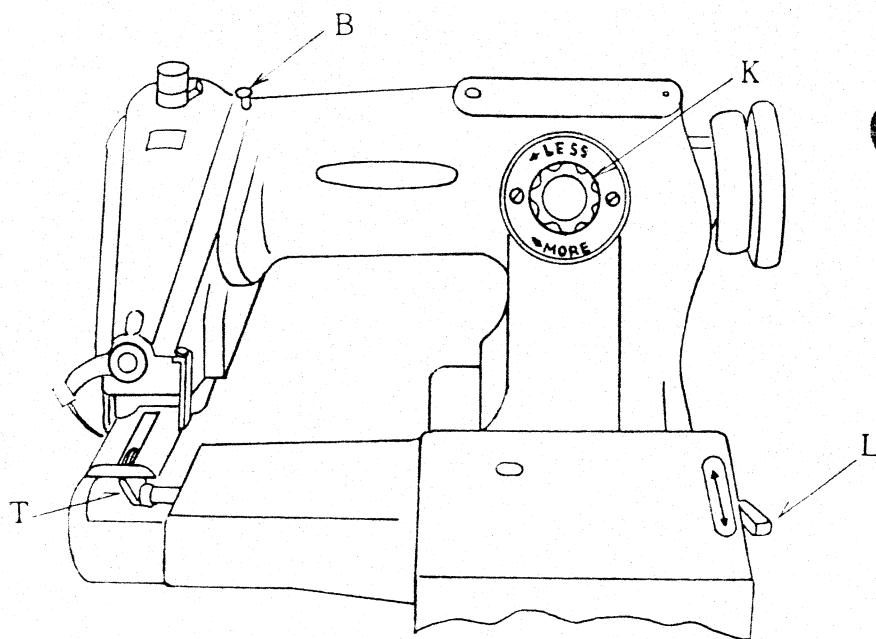

Fig. 4
A. While keeping knee lifter depressed, turn handwheel (away from operator) until the needle's eye is directly above the oscillating rib "T" mounted in the work arm. (Fig. 4, page 4).
C. If rib should cause needle to deflect upward, however little, turn adjustment knob "K" (Fig. 4) gradually counter-clockwise (direction "LESS") to eliminate contact.
knob "K" (Fig. 4) clockwise for more penetration and counterclockwise for less penetration. The dial surrounding the adjustment knob shows clearly the direction of turning to obtain the needed degree of needle penetration.
When this lever points toward the operator, as shown in Fig. 4, the needle catches the material at each stitch. Pushing lever "L" to the rear of the machine so that it points toward the handwheel will activate the skip-stitch device whereby the needle will penetrate the material at every other stitch.